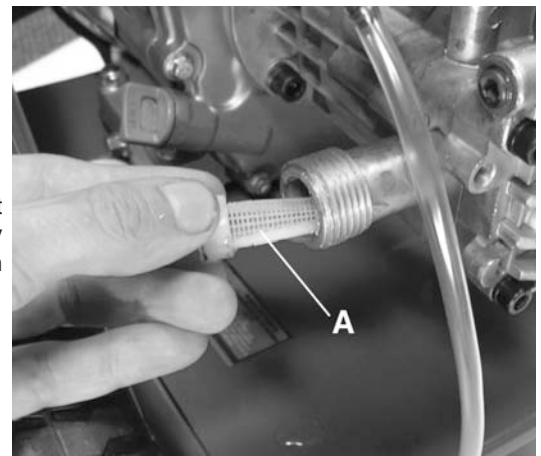

Figure 12
This pressure washer is equipped with a water inlet screen (A) Fig.12. This water screen must be kept clean at all times or else it will restrict the water flow to the pressure washer and may damage the pump. Remove the quick connect coupling from the water inlet, remove and clean screen. Never operate this pressure washer without the water inlet screen in place.